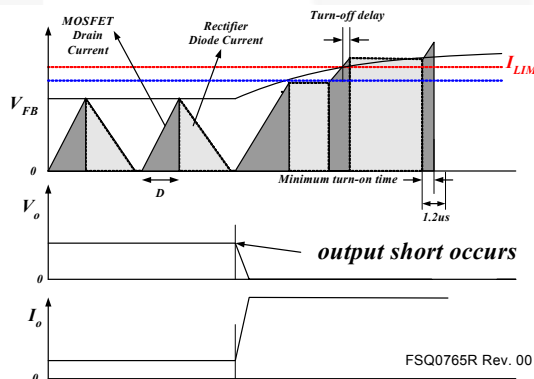

Figure 31. Output Short Waveforms
4.3 Output-Short Protection (OSP): If the output is shorted, steep current with extremely high di/dt can flow through the SenseFET during the LEB time. Such a steep current brings high voltage stress on the drain of SenseFET when turned off. To protect the device from such an abnormal condition, OSP is included in the FSQ-series. It is comprised of detecting V_{FB} and SenseFET turn-on time. When the V_{FB} is higher than 2V and the SenseFET turn-on time is lower than 1.2μs, the FPS recognizes this condition as an abnormal error and shuts down PWM switching until V_{CC} reaches V_{start} again. An abnormal condition output short is shown in Figure 31.